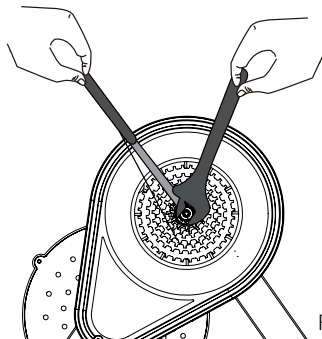

Figure 4
- 3. Because there is no wheel to brace against when you are tightening the locking ring, you will need to apply a chain whip onto the cassette in reverse to be able to tighten the locking ring. See figure 4.